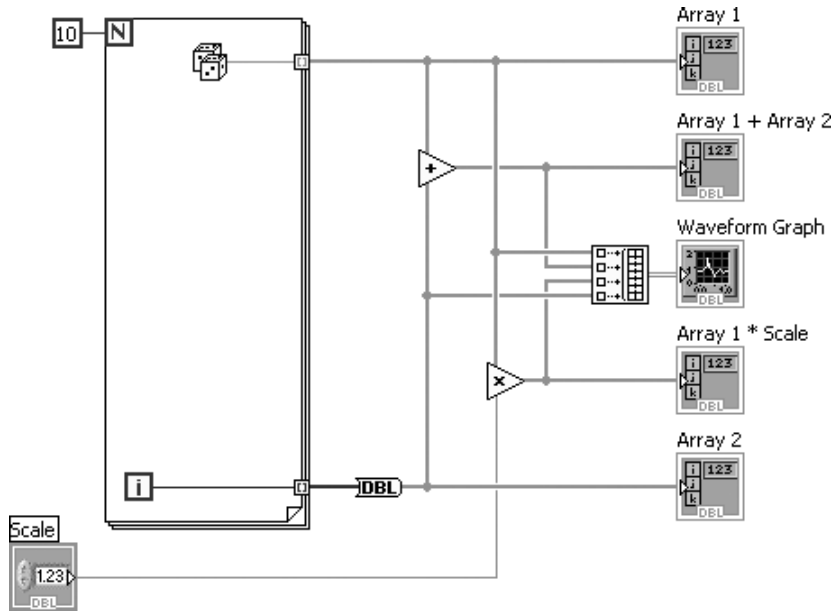

Figure 7.37
4. Build the diagram shown in Figure 7.37—be careful because the wiring can get a little tricky!